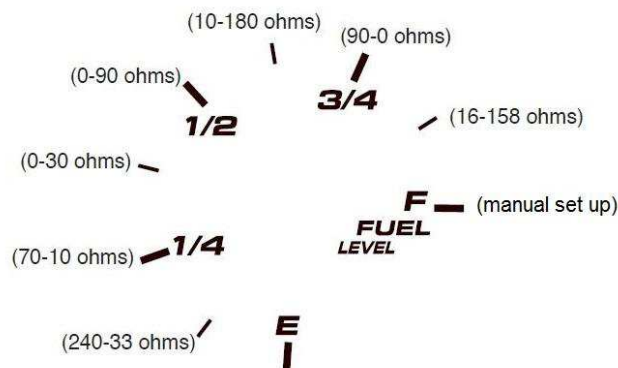

Figure 2
The fuel level gauge can be manually programmed to any existing fuel tank sender or you can select one of the programmed presets (**Figure 2**) – Factory default setting is 240 Ohms Empty and 33 Ohms Full.
- Press and release button to toggle between available preset resistive ohm range options (**Figure 2**). The pointer will stop to each available setting with quick button presses. At the desired ohm range, press and hold the button down for 2 seconds to save the ohm range preset. The LED will blink 2 times to indicate the preset range is saved and will begin displaying the current fuel level.